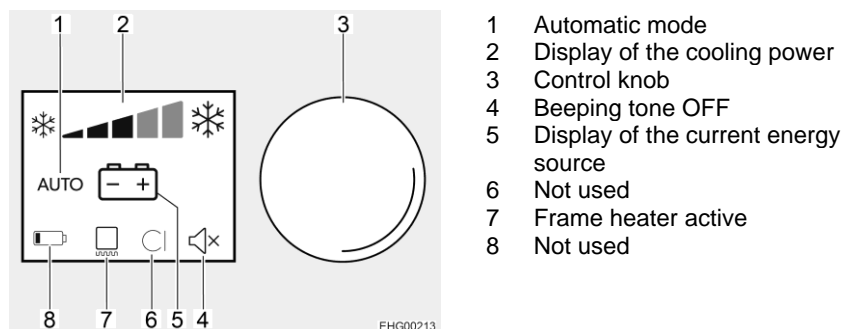

Fig. 205 Operation of refrigerator
When turned on the first time the refrigerator automatically selects the middle thermostat position. This setting can be adjusted manually via the control knob (Fig. 205,3). The bars (Fig. 205,2) indicate the selected thermostat position. It takes a few hours till the refrigerator reaches its normal operating temperature. When changing over the operating mode the thermostat setting will be maintained. The refrigerating temperature is retained regardless of the type of energy being used.
High external temperatures and high humidity can cause drops of water to form on the metal frame of the freezer compartment. This is why the refrigerator is equipped with a frame heater for the freezer compartment. If the temperature and humidity are high, switch on the frame heater. This prevents corrosion. If the frame heater is switched on, the frame heater symbol (Fig. 205,7) is lit.
- Turn control knob (Fig. 205,3) until the bottom line (adjustment menu) is active.
- Press and hold the control knob (Fig. 205,3) for about 2 seconds. The refrigerator switches on with the settings selected most recently.
- Press and hold the control knob (Fig. 205,3) for about 4 seconds. The refrigerator switches off and no displays are lit.